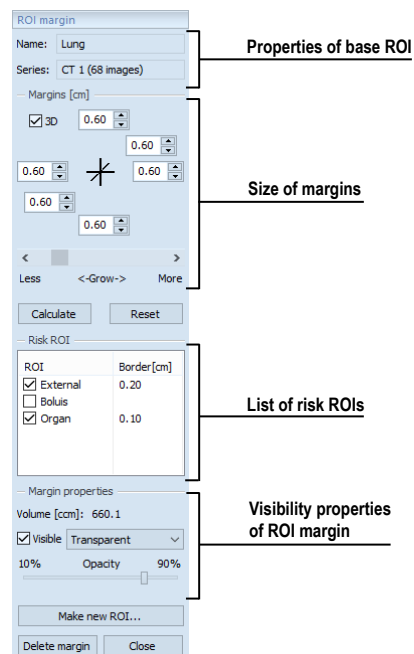

Figure 268 – ROI margin tool
3. The **ROI margin** tool is then automatically displayed as a new tab in the tools panel where you can define parameters for the ROI margin (see Figure 268).